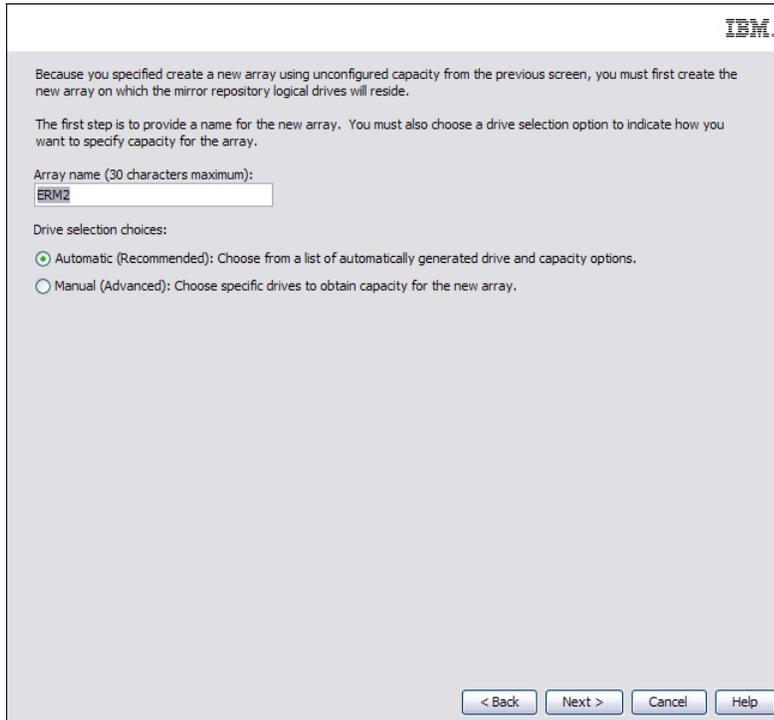

Figure 5-10 Activate Remote Mirroring wizard: Create new array
- An unconfigured array: Click **Next** to proceed to the Create Array window (Figure 5-10).